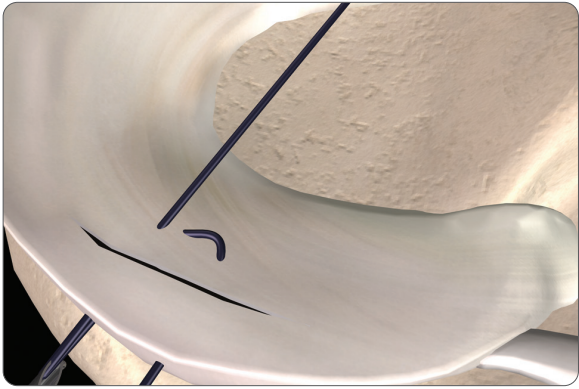

Figure 11
7. Remove the first needle with the loop from the joint (**Figure 11**).